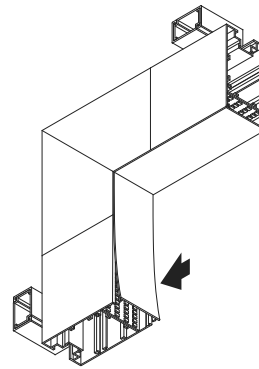

Figure 5a
- a. After assembling the LED tape and end caps, measure and cut the diffuser lens to the length of the run with razor knife or slowly with chop saw. (Figure 5a)